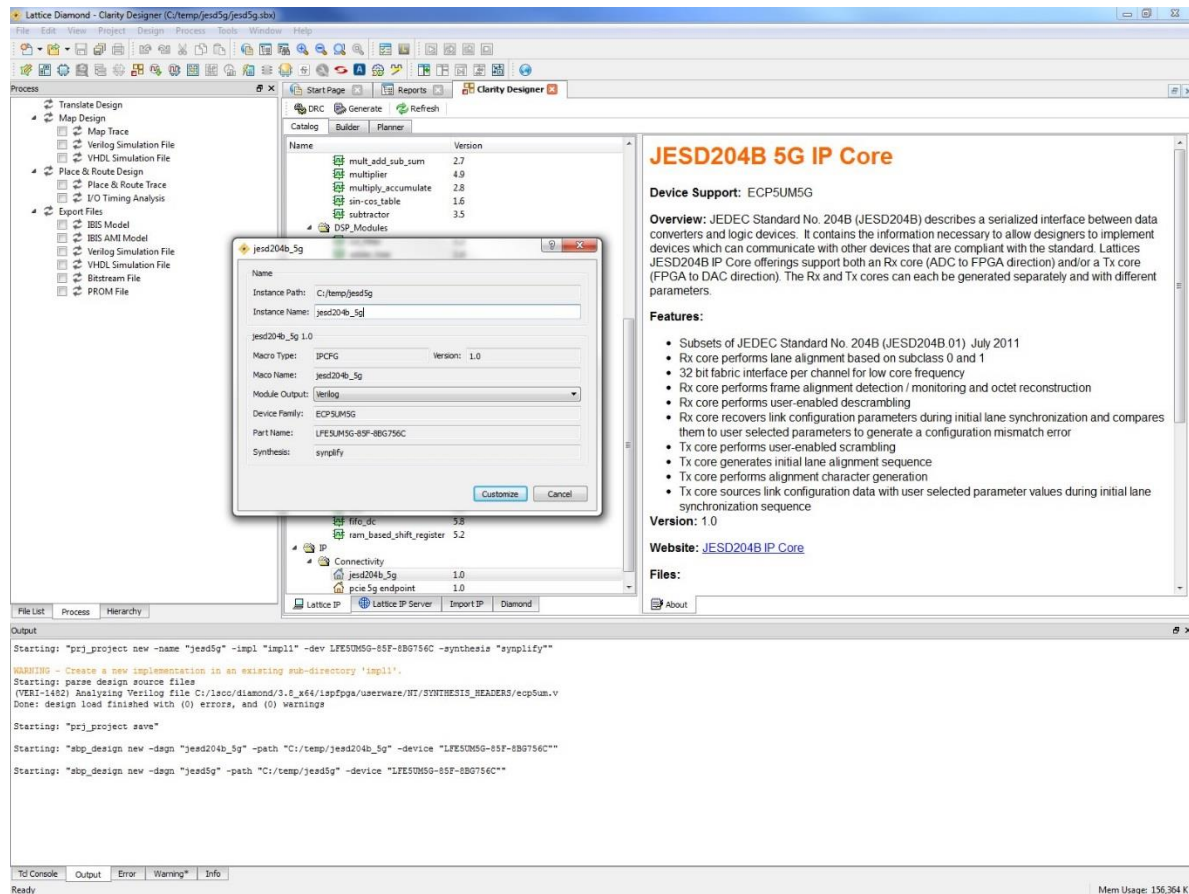

Figure 4.3. Configuring JESD204B IP in Clarity Designer
1. Double-click **JESD204B 5G** in the IP list of the System/Planner view. The **jесd204b_5g** dialog box is displayed as shown in Figure 4.3.